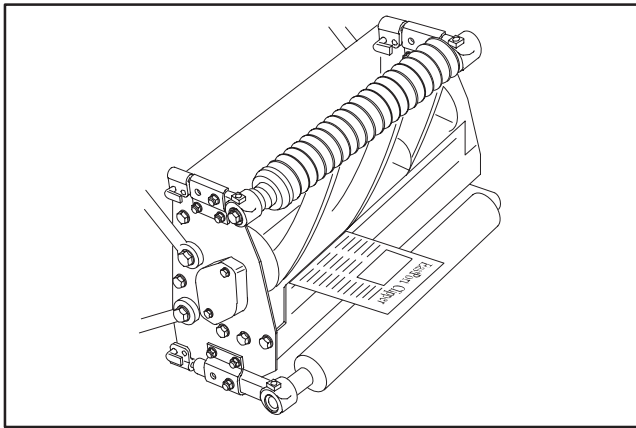

Figure 3
2. Set the cutting unit as shown in figure 3. Do not rest the cutting unit on the bedknife adjusting knob as this will affect the reel to bedknife clearance. Place a block of wood under the round cross tube to hold the adjustment knob above the surface.
4. Insert a long strip of dry newspaper between the reel and bedknife (Fig. 3) at either end of the bedknife, and rotate the reel by hand. The paper should be cleanly cut. Repeat this procedure at other end of the reel. If the paper does not cut cleanly, tighten the bedknife adjusting knob a maximum of two clicks and check to see if paper is cut cleanly. If it is not, proceed to the next step.